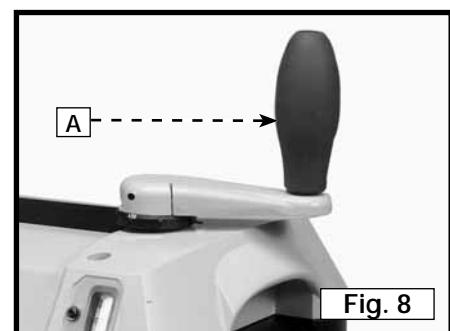

Fig. 8
3. Rotate handle (A) to the operating position as shown in Fig. 8.